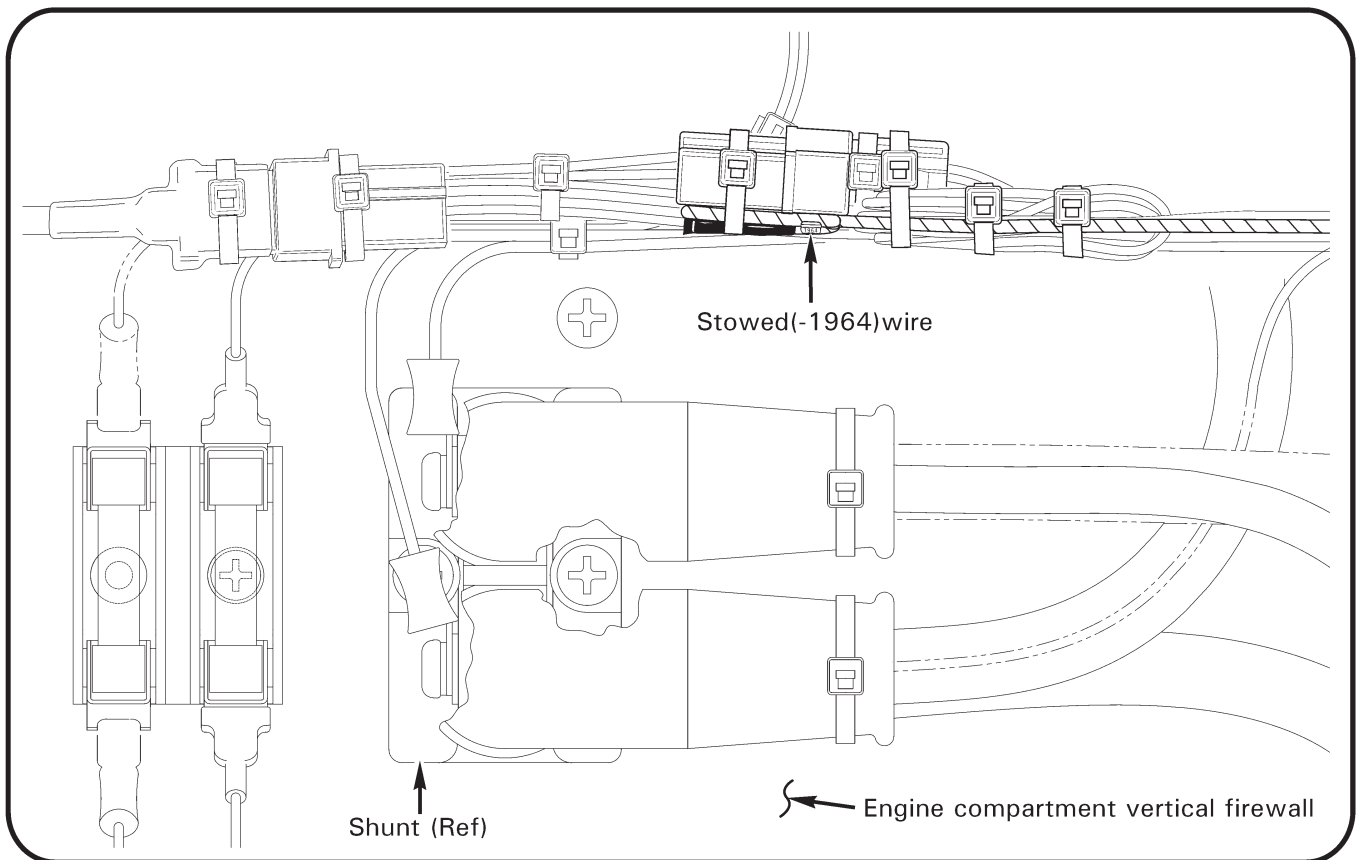

FIGURE 5 Location of provisional wiring
21. Refer to Figure 5. Determine if helicopter has provisional wiring: Later helicopters have a stowed (-1964) wire (connector protected with heat shrink) located on left-hand side of engine compartment vertical firewall. Perform **A** or **B** below, as necessary.